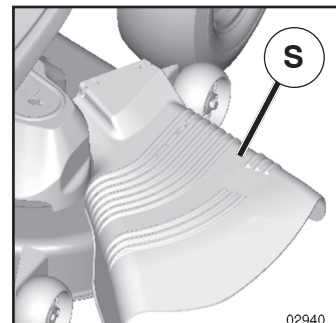

Fig. 12
TO OPERATE MOWER (See Fig. 12)
CAUTION: Do not operate the mower without either the entire grass catcher, on mowers so equipped, or the deflector shield (S) in place (See Fig. 12).